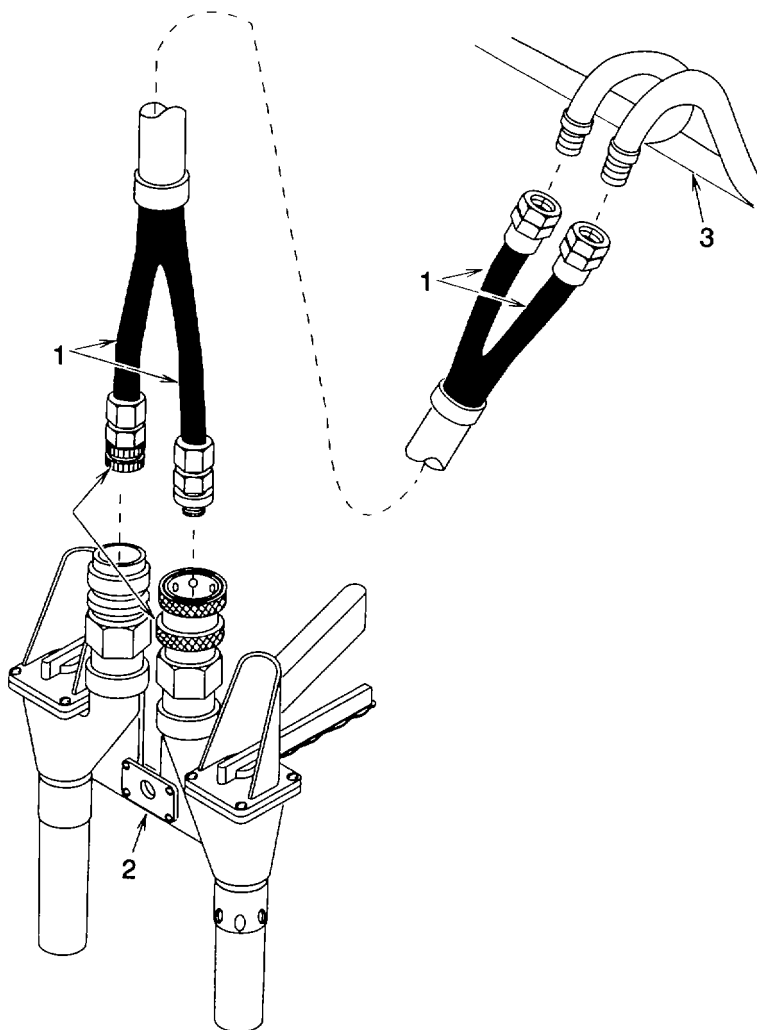

Figure 4-11. Hose Removal
- a. Removal (See Figure 4-11.)
- (1) Check to be sure gaskets (8) (fig 4-12) are in place then connect fire hose (1) (fig 4-11) to hose reel distributor (3) connections with dry chemical hose connected to roadside distributor connection
- (2) Rewind fire hose (1) onto hose reel and secure rewind brake assembly.
- (3) Connect fire hose (1) to nozzles (2).